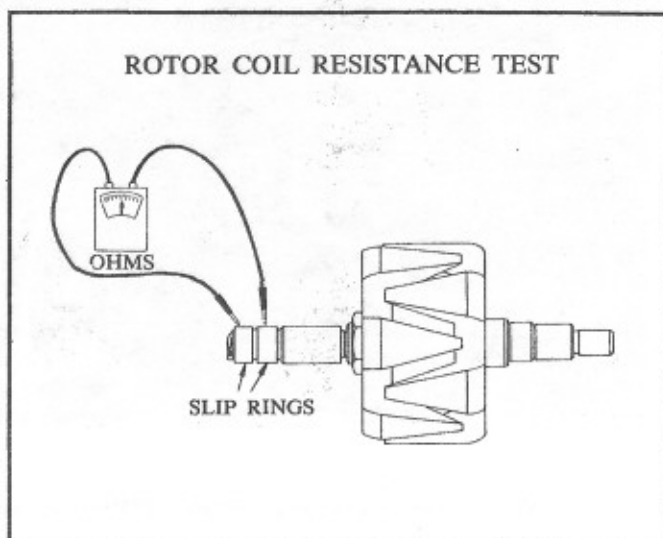

Figure 14
- 14.1 Connect test leads to slip rings (Fig. 14), and compare to values listed below: